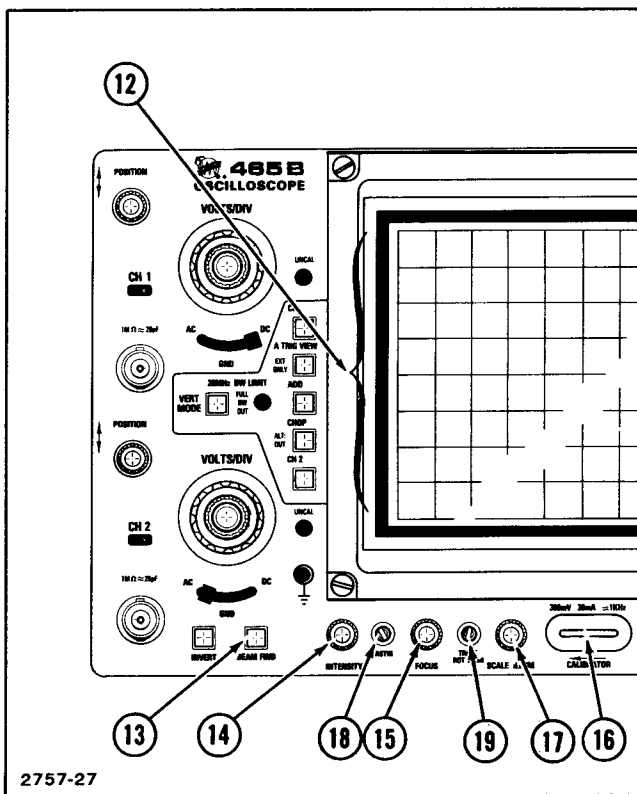

Figure 2-4. Display controls and calibrator.
Refer to Figure 2-4 for location of items 12 through 19.